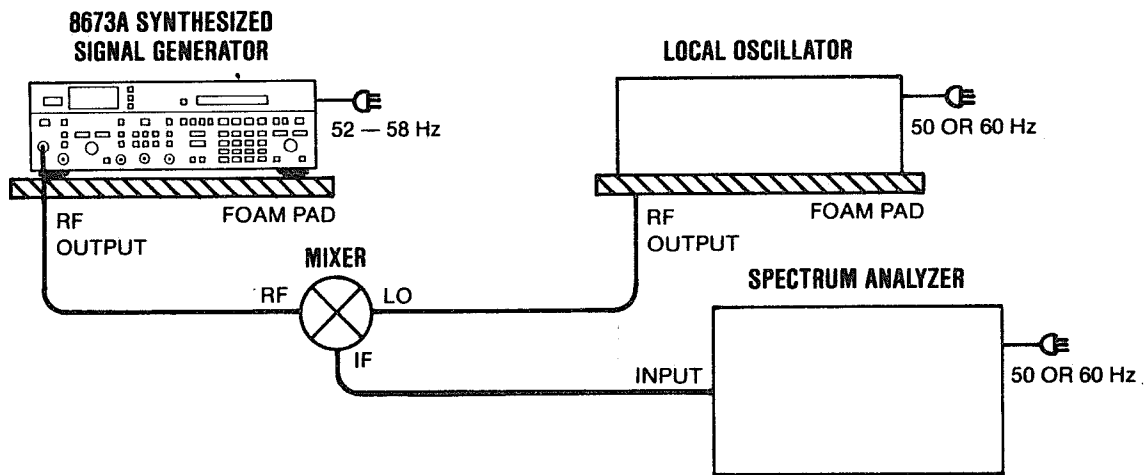

Figure 4-6. Power Line Related Spurious Signals Test Setup
- 1. Place the Signal Generator on a 2-inch foam pad. Connect the equipment as shown in Figure 4-6.